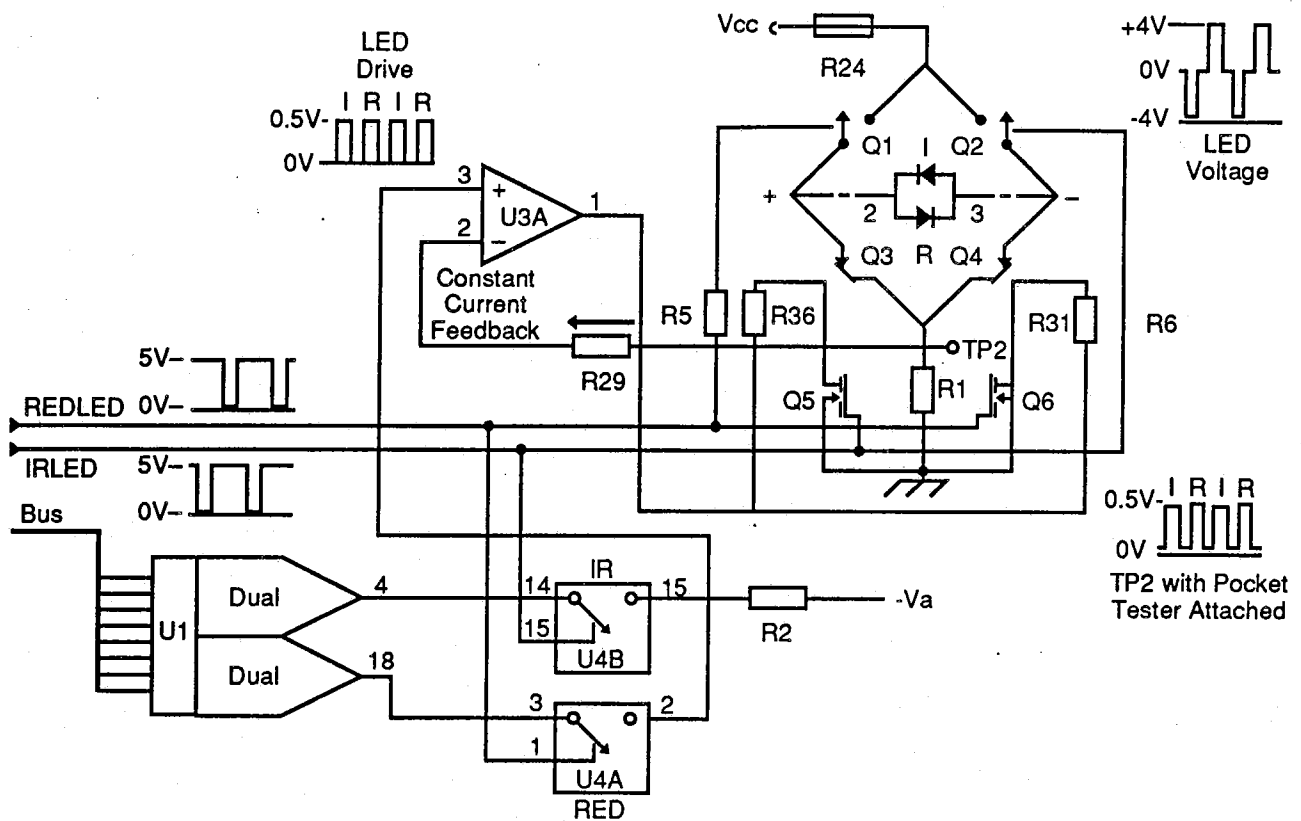

Figure 3-3: Oximetry Module LED Driver Circuit
Refer to Figure 3-3 "Oximetry Module LED Driver Circuit," and the Oximetry Module schematic diagram (sheet 2 of 7) for additional detail during the following discussion.
LED drive current switching is accomplished by Q1 through Q6 and the control lines, IRLED and REDLED. Figure 3-3 illustrates the relationship of these components and their association with the red (R) and IR (I) LEDs in the sensor (the LEDs are shown as they appear electrically in the circuit without the interconnection diagram). The numbers 2 and 3 on either side of the back-to-back LEDs indicate pin numbers in the sensor connector.